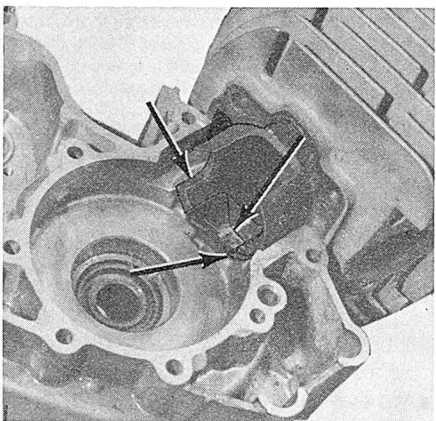

Fig. 3-11—The cylinder should match with crankcase openings. Arrows indicate locations of possible misalignment.
the inlet passage and port (TA) determines the direction of the fuel-air charge entering the cylinder if incorrect, fuel will be wasted and the cylinder will not be cleared of old gases. The transfer passage in crankcase, gasket, cylinder, and sometimes piston skirt, should be matched to provide smooth, nonrestrictive flow. Refer to Fig. 3-11.